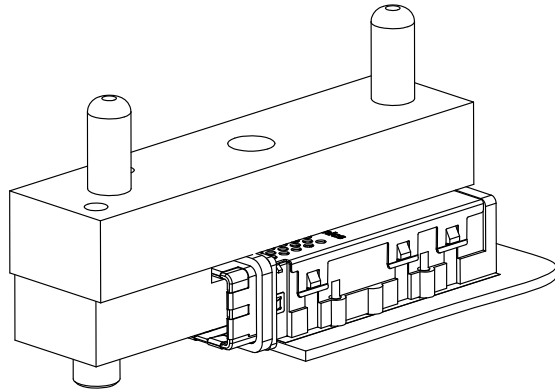

Figure 3
2. Insert the removal blade assembly into the receptacle. See Figure 3.